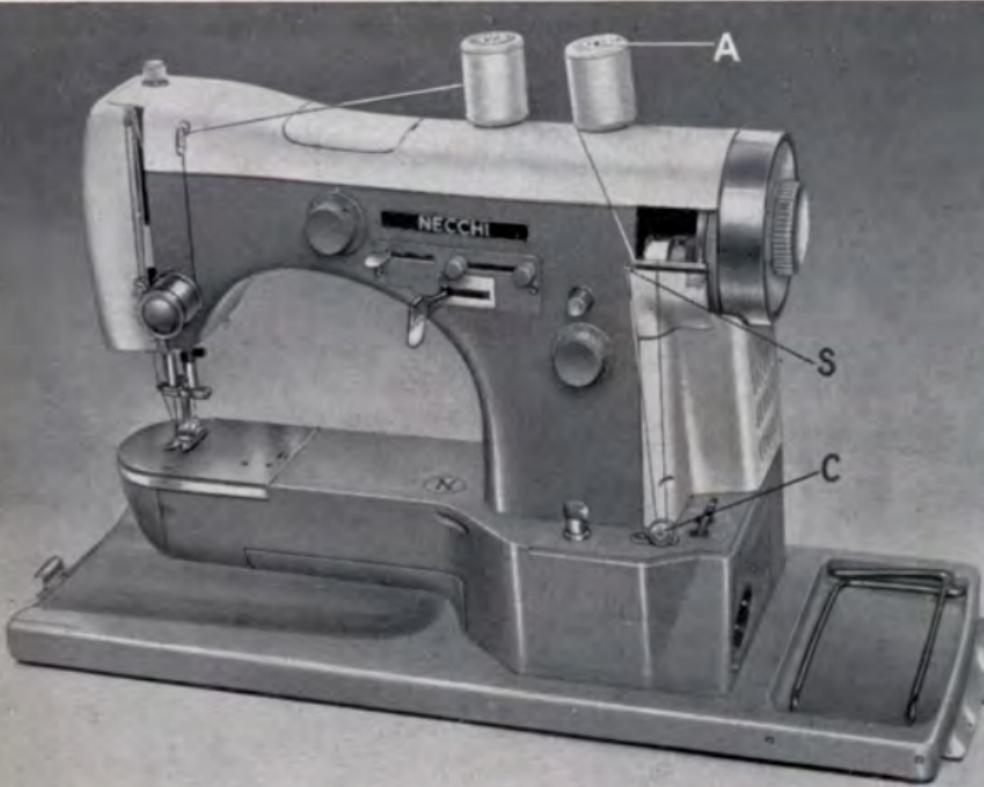

Fig. 25
- c) Place the spool of thread on the spool pin « A » (Fig. 25). From this spool draw the thread through the thread guide « S » (Fig. 25) on the bobbin winder cover in the following manner: